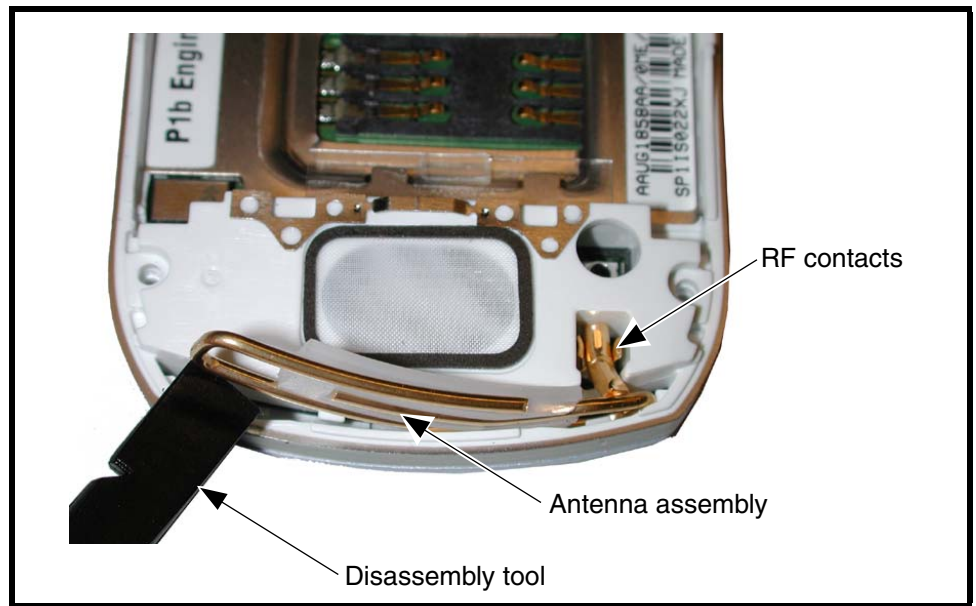

Figure 9. Removing and Replacing the Antenna
3. Use the metal tweezers to release the antenna cover latches (see Figure 9).
5. Use the disassembly tool to lift the side of the antenna out of the phone (see Figure 9).